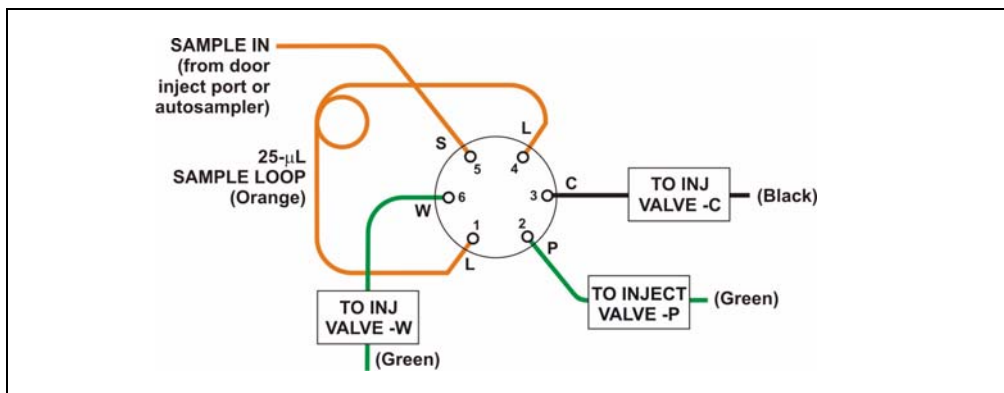

Figure 3-11. Injection Valve Connections
1. Make sure the injection port on the ICS-1500 front door (see Figure 2-1) is connected to the sample port **S** (5) on the injection valve (see Figure 3-11).
1. Disconnect the waste line from port **W (6)** of the injection valve (see Figure 3-11) and attach a shorter line: 25 to 30 cm (10 to 12 inches) of PEEK or Teflon® tubing.